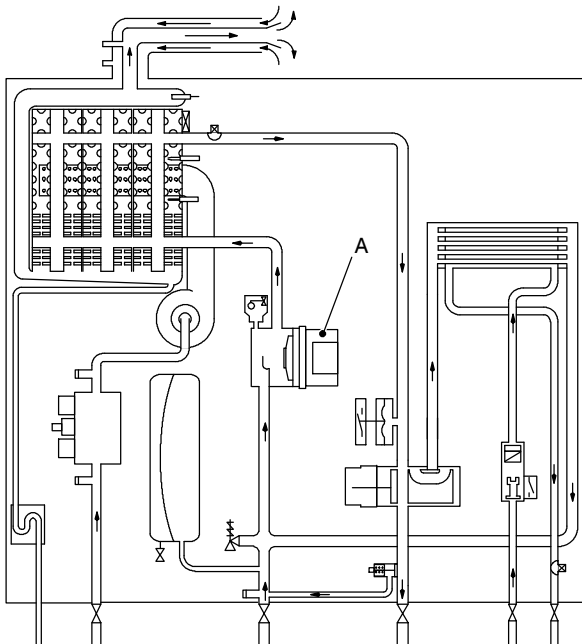
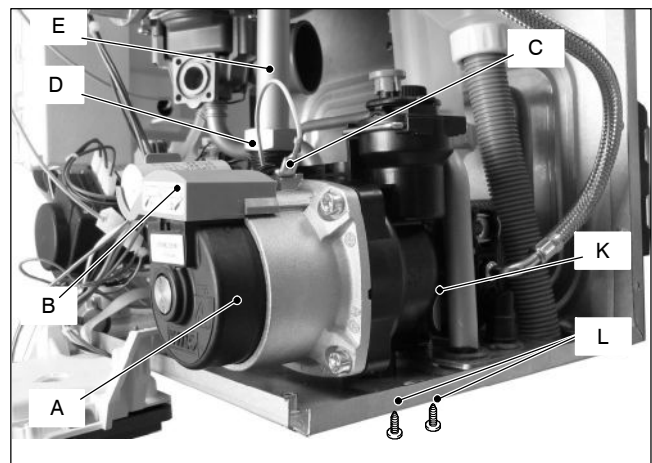
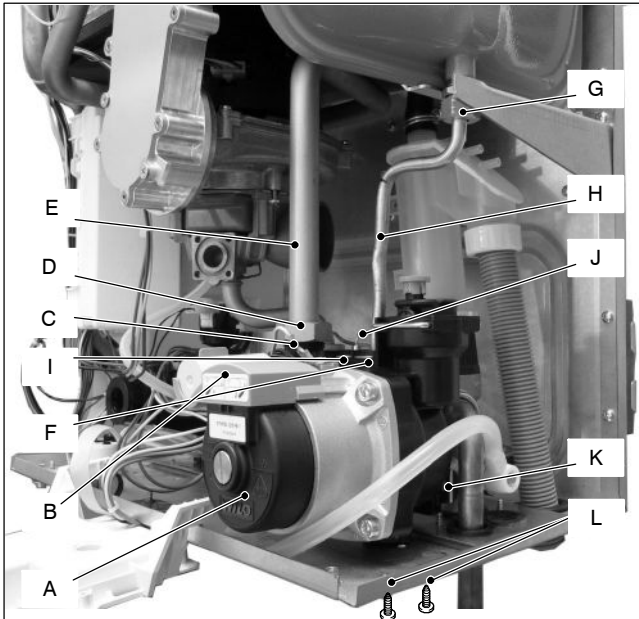

Fig. 7.1
Fig. 7.3
Fig. 7.4
The pump A in Fig. 7.1 and Fig. 7.3 has the function of making the water in the main circuit circulate through the main condensing heat exchanger and therefore through the c.h. system (during the c.h. function) or through the secondary heat exchanger (during the d.h.w. function).
With the boiler off, remove the front panel and disconnect the connector B (Fig. 7.3).
- 3 Disconnect the connector B (Fig. 7.3 – Fig. 7.4) following the indications given on the connector box.
- 6 C.H. only model remove the fork *F*, loosen the connection *G* and remove the pipe *H* (Fig. 7.4).
- 7 C.H. only model remove the fork *I* and remove the pressure gauge pipe *J* (Fig. 7.4).
- 8 Remove the locking plate *K* (Fig. 7.3 – Fig. 7.4).
- 2 Disconnect the connector *B* (Fig. 7.3) following the indications given on the connector box.